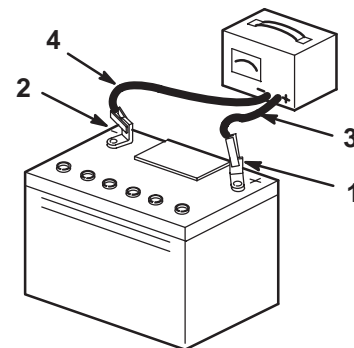

Figure 35
- When the battery is fully charged, unplug the charger from the electrical outlet, then disconnect the charger leads from the battery posts (Fig. 35).